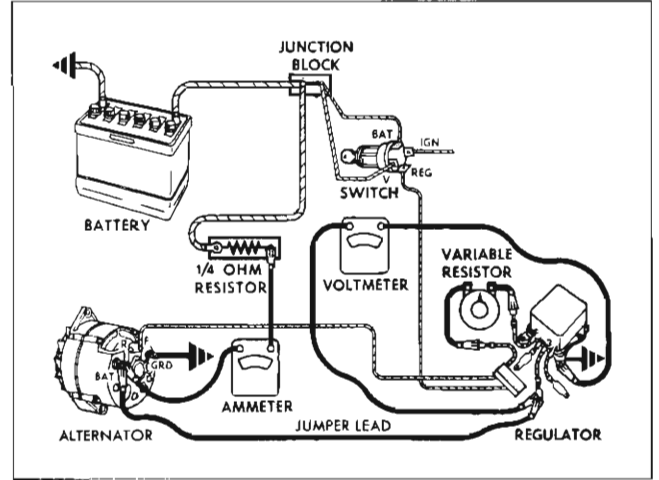

Fig. 11-32 Checking Voltage Setting
1. Connect an ammeter and a  $\frac{1}{4}$  ohm resistor with a rating of 25 watts or more in series in the circuit at the "BAT" terminal on the alternator (Fig. 11-32). In case the battery is discharged, the  $\frac{1}{4}$  ohm resistor will limit the alternator output to 10 amperes or less which is required when checking and adjusting the voltage setting.